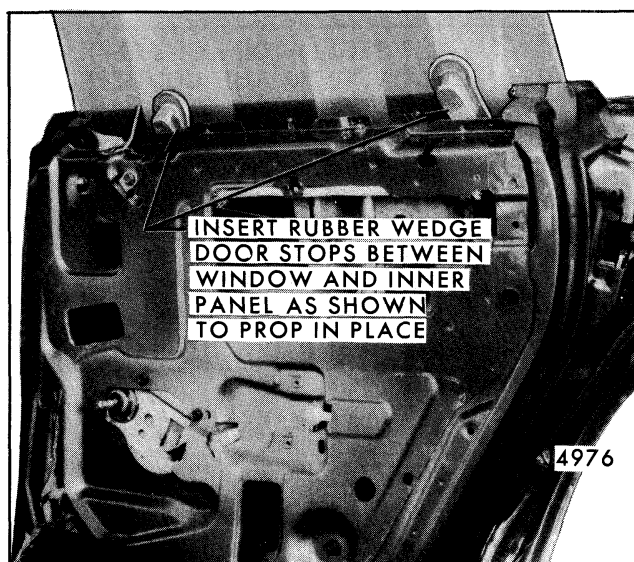

Fig. 5-153-Using Rubber Door Stop Wedges to Prop Window in Place
2. Raise window to a full-up position and secure in place by positioning rubber door stop wedges between the door glass and inner panel at front and rear of door (Fig. 5-153).
2. Remove center guide cam as subsequently described and prop glass in a full-up position by placing rubber door wedge stops between glass and inner panel (at belt) at the front and rear of glass (Fig. 5-153).
2. Punch out regulator rivet center pins, then drill out rivets with 1/4" drill bit. Disengage regulator lift arm roller from lower sash channel cam and prop window in a full-up position (Fig. 5-153). Rotate regulator assembly so that motor portion of regulator assembly comes out first after disconnecting wire harness.
2. Lower window to within 2" of full-down position, insert rubber wedge door stops between window and inner panel at belt as shown in Figure 5-153 and remove lower sash channel cam to glass attaching stud nuts. Disengage cam from rollers on regulator lift and balance arms and remove cam.
2. Prop window in full-up position (Fig. 5-153), remove center guide cam upper and lower attaching screws ("4 and 6", Fig. 5-132).
2. Support window in full up position using rubber door wedge stops between glass and inner panel (Fig. 5-153).